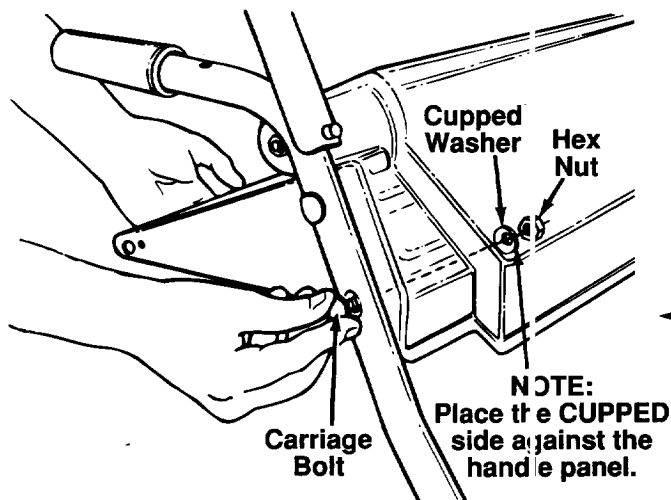

FIGURE 2.
4. Place the handle panel in position between the handles. Secure with four carriage bolts, cupped washers (cupped side against the handle panel) and hex nuts as shown in figure 2.